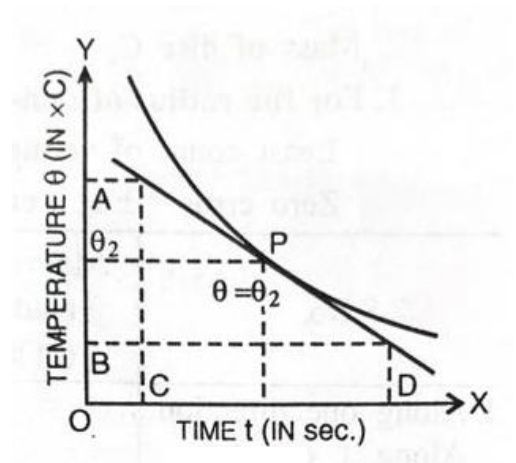

Fig. 2
7. Then plot a graph X-axis and temperature θ on Y-axis as shown in Fig. 2. Draw tangent to the curve at point P corresponding to the temperature θ_2 and find its slope which gives the value of $(d\theta/dt)_{\theta=\theta_2}$.
9. From the above observation table, a graph is plotted for temperature θ on Y-axis and time t on X-axis. From this graph (Fig. 2), the slope of the tangent drawn on curve at $\theta = \theta_2$, is